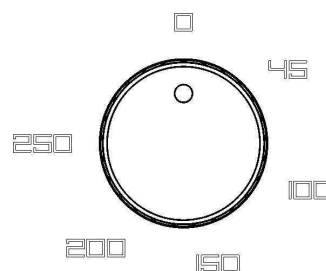

Fig.1
The TEPPANYAKI is controlled by an energy regulator to multiple positions (see fig. 1). Its
The teppanyaki surface: should be cleaned when it is at a temperature in the range of approximately 50-60 °C; at this temperature, it is easier to remove food residue. If the plate surface is cold, move the thermostat knob (7) to 50-60 °C, if it is still hot, wait until it has cooled down: in such a case, when you have decided to carry out the cleaning procedure, in order to determine the plate surface temperature, rotate the knob thermostat (7) until the indicator light illuminates (9) and read the indicated temperature (figure 1), then return the knob (7) to the "0-off" position.